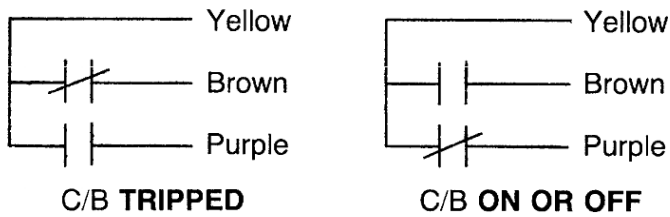

Figure 6
8. Check continuity of bell alarm switch as shown in Figure 6. Repeat Step 5 if necessary.